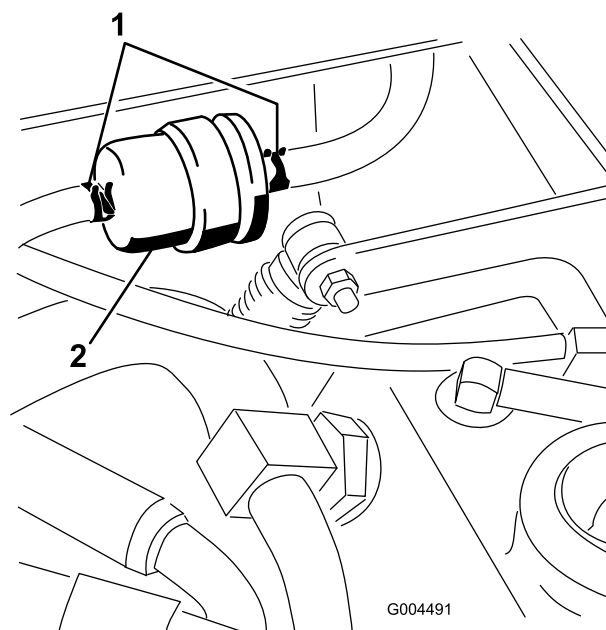

Figure 36
The fuel pre-filter (Figure 36) is located between the fuel tank and fuel pump.
1. Clamp both fuel lines that connect to the pre-filter so fuel cannot drain when the lines are removed (Figure 36).